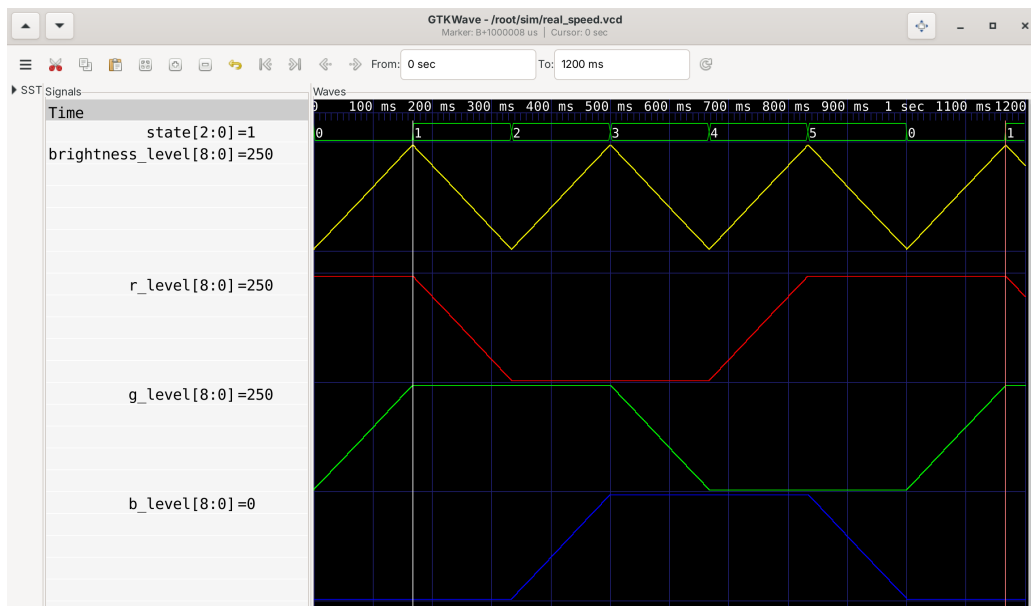

Figure 5. Real-speed run from `real_speed_tb.sv` in GTKWave (0 to 1.2 s). The two markers sit on consecutive state 0-to-1 changes.
Figure 5 shows the same run in GTKWave. The baseline marker is on the first 0-to-1 change and the main marker is on the second, and GTKWave prints the gap between them in the title bar as B+1000008 us. The extra 8 μ s comes from the test bench, not the design. The clock toggles every 41.667 ns, so the simulated clock period is 83.334 ns instead of 83.333 ns, and over 12 million cycles that adds up to 8 μ s. Counting clock cycles gets around that rounding.
- `real_speed_tb.sv`: test bench for Figure 5 (real timing, measures one full cycle)